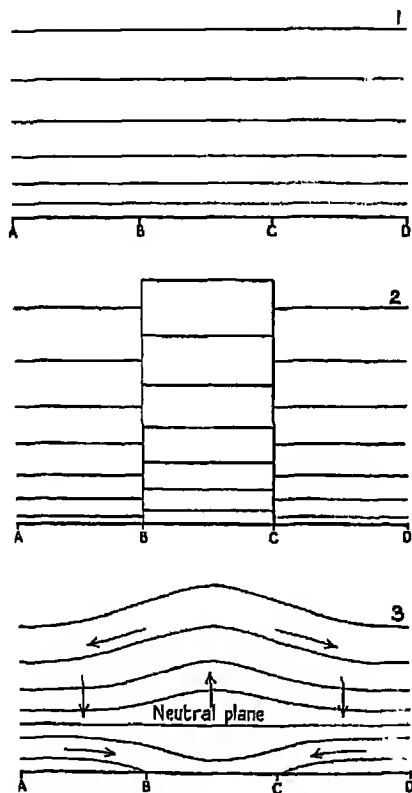

FIG. 264. Effect of heating on pressure in the atmosphere.
Fig. 264(1) represents a section of the atmosphere *ABCD* representing the earth. There is no movement in the air and the pressure at *A, B, C, D*, is the same. Now suppose the air just above *BC* is heated (Fig. 264(2)). It expands and rises. Imagine that the walls of the column of air are air-tight. The pressure on *BC* is not changed because there is the same weight of air above it as before. Now suppose the air-tight walls to be removed. Air flows outwards from the top of the column *BC*, some piling on column *AB* and some on column *CD* (Fig. 264(3)). The pressure on *AB* (and *CD*) is now increased because air has been added to it. The pressure over *BC* has been reduced because it has lost air. Air now flows from the lower layers of *AB* and *CD* inwards to *BC*, thus tending to restore the pressure. If the heating of *BC* is maintained the circulation continues, air rising above *BC*, flowing outwards, descending over *AB* and *CD* and flowing inwards to *BC*.